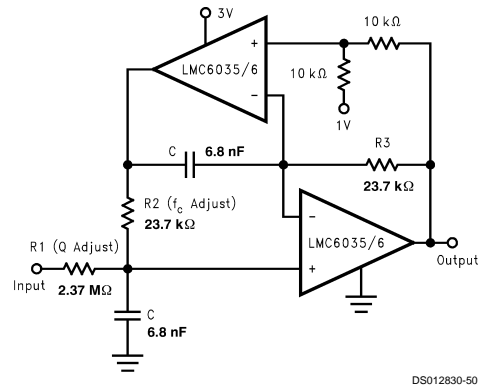

FIGURE 7. 2 Pole, 1 kHz Active, Bandpass Filter
The dual amplifier bandpass (DABP) filter features the ability to independently adjust  $f_c$  and Q. In most other bandpass topologies, the  $f_c$  and Q adjustments interact with each other. The DABP filter also offers both low sensitivity to component values and high Qs. The following application of Figure 7, provides a 1 kHz center frequency and a Q of 100.
- First choose a center frequency ( $f_c$ ). Figure 7 represents component values that were obtained from the following computation for a center frequency of 1 kHz.